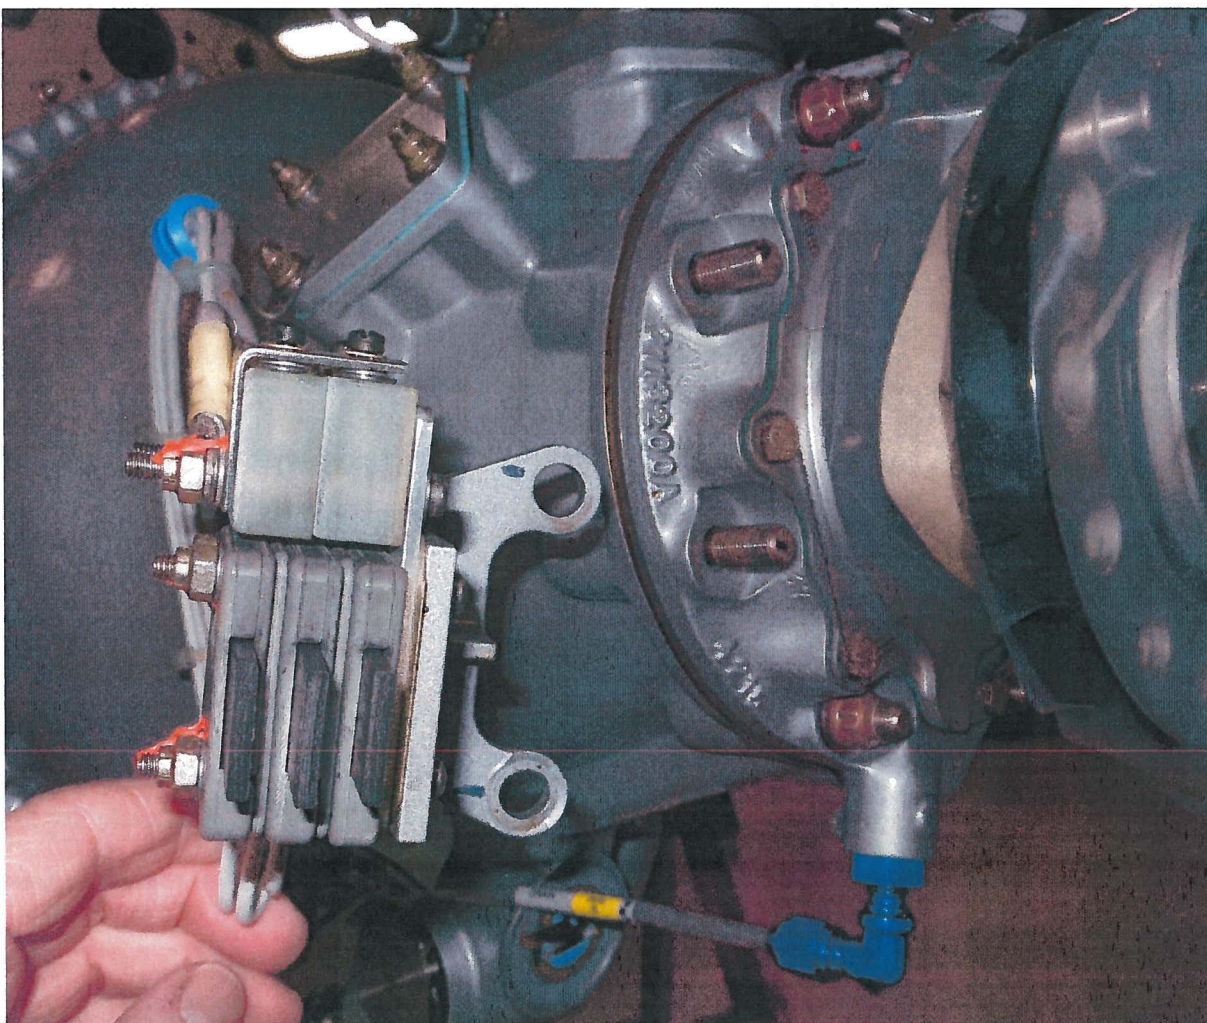

Figure 1
- a) Remove existing de-ice brush block bracket and attached parts from the engine gearbox as shown in Figure 1. Note the position of cable ties that secure the wires near the brush block and MOV.